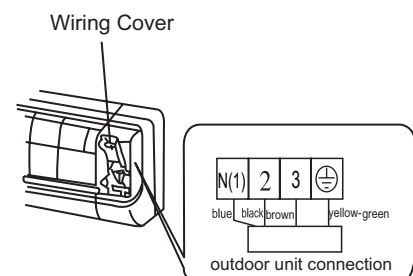

Fig 2
3. Connect and fix the power connection cord to the terminal board. (As shown in Fig.2)